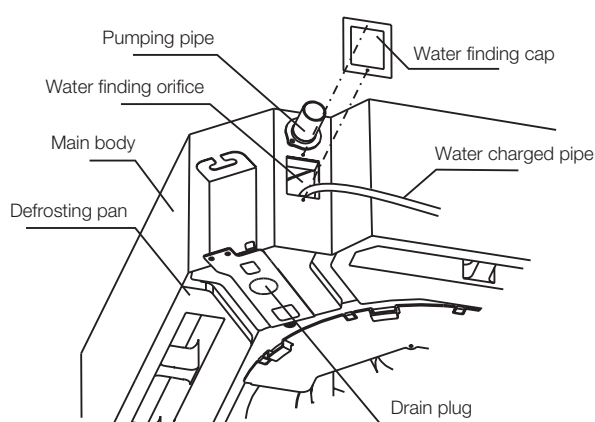

Fig. 5-3
- Remove water finding cap, charge 2000ml water into defrosting pan through water finding orifice by water charged pipe. (See Fig.5-3)